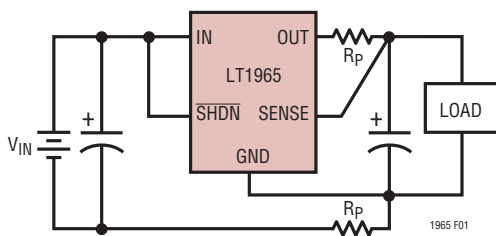

Figure 1. Kelvin Sense Connection
**SENSE (Pin 3 / 3 / 5 / 5):** Sense. For fixed voltage versions of the LT1965 (LT1965-1.5/LT1965-1.8/LT1965-2.5/LT1965-3.3), the SENSE pin is the input to the error amplifier. Optimum regulation is obtained when the SENSE pin is connected to the OUT pin of the regulator. In critical applications, small voltage drops are caused by the resistance ( $R_P$ ) of PCB traces between the regulator and the load. These drops may be eliminated by connecting the SENSE pin to the output at the load as shown in Figure 1 (Kelvin Sense Connection). Note that the voltage drop across the external PCB traces will add to the dropout voltage of the regulator. The SENSE pin bias current is 100μA at the nominal rated output voltage. The SENSE pin can be pulled below ground (as in a dual supply system where the regulator load is returned to a negative supply) while still allowing the device to start and operate.